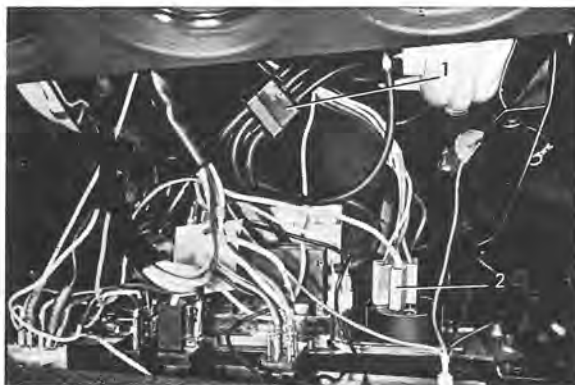
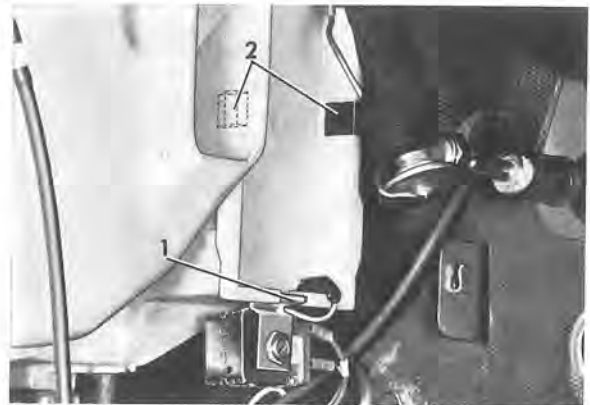

Fig. 8-54. Control panel reverse side
Fig. 8-55. Cover for evaporator
14. Disconnect the ground cables from the control plate and the contact unit from the fan motor control (2, Fig. 8-54).
16. Separate the connector (1) for the vacuum hoses and disconnect the vacuum tank hose from the connector.
- (19). Disconnect the thermostat attachment (1, Fig. 8-55) from the central unit, and both the clamps (2) securing the cover to the evaporator.
- (4). Fit the evaporator in the central unit. Put on the cover and secure it with the two clamps (2, Fig. 8-55), also the thermostat on the opening's lower flange (1). Seal with sealing compound round the evaporator pipes and the thermostat capillary if necessary.